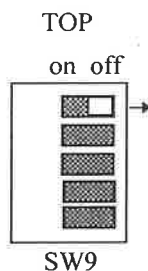

Figure 1
- SYSTEM POWER ON/OFF SWITCH (Refer to Fig. 1) - The system power on/off switch as well as the non-resettable counter and circuit breaker are located in the power box which is mounted on the inside right wall of the cabinet. When machine power is on the on/off switch will be illuminated.
- FILLING THE HOPPER WITH COINS (Refer to Fig. 1) - The "OUT OF SERVICE WHEN LIT" light on the front of the machine will flash at one second intervals to indicate the need to fill the hopper with coins. Filling the hopper is a simple task. Your machine has been equipped with one of the following hopper models:
- AUDITING THE MACHINE (Refer to Fig. 1) - Money received is counted by a highly reliable, non-resettable, electro-mechanical counter. One count for every denomination (e.g. \$1.00 = one count and \$5.00 = five counts).
Note Acceptor - (Refer to Fig. 1) The note acceptor upper and lower track sensors should be cleaned every three months or more often in the case of high volume locations.
Hopper - (Refer to Fig. 1) Check the hopper for any debris from coin bags or wrappers.
- **USING THE LIGHTS FOR TROUBLESHOOTING** (Refer to Fig. 1)
3. Set the top switch of SW9 as shown in Figure 1; do not alter any other switch setting.